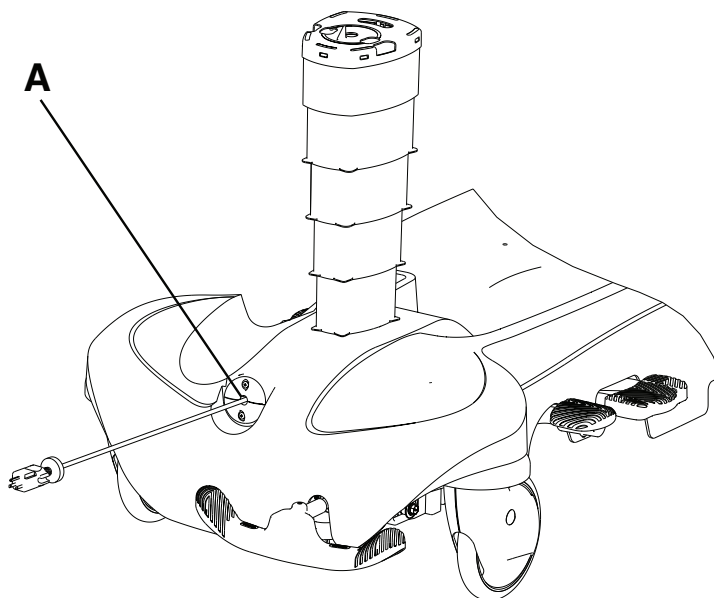

Figure 21 – Retractable cord reel
To extend the power cord, pull the power cord out from the retractable cord reel (A) to the desired length (Figure 21).